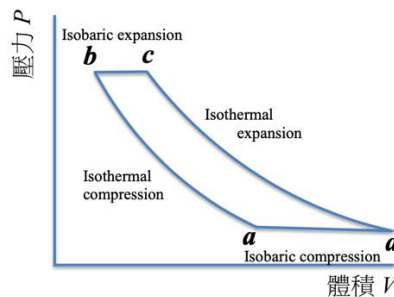
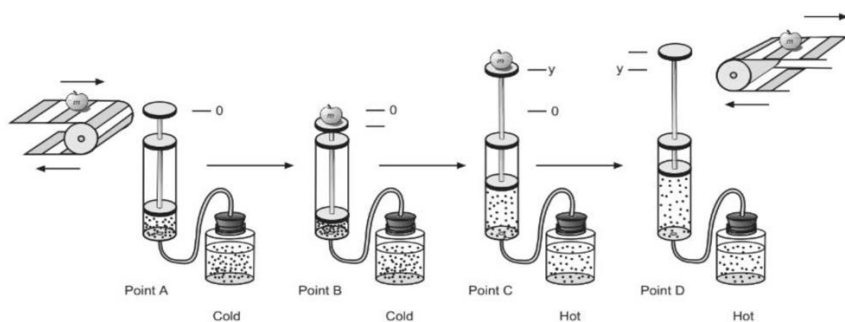

Fig. 2. The thermal cycle processes.
Fig. 3. The experimental setup for the thermal cycle
- Verifying the thermal cycle curve with a real heat engine (isothermal, isobaric, expansion and compression), the thermal cycle process is shown in Figure 2. The actual operation diagram is shown in Figure 3.
- Calculating work with actual PV curve (Figure 3 shows the experimental setup for the thermal cycle).